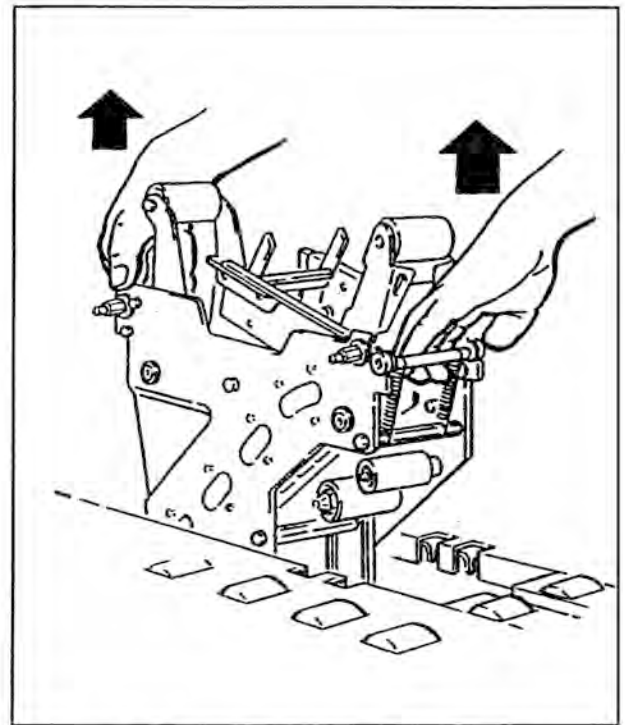

Figure 5-2 – Remove Lower Taping Head
4. Lift the lower taping head as shown in Figure 5-2 and remove it from the machine bed.
**CAUTION** – Holding taping head in another way than shown in Figure 5-2 may increase the danger of being injured by the tape cut-off knife.